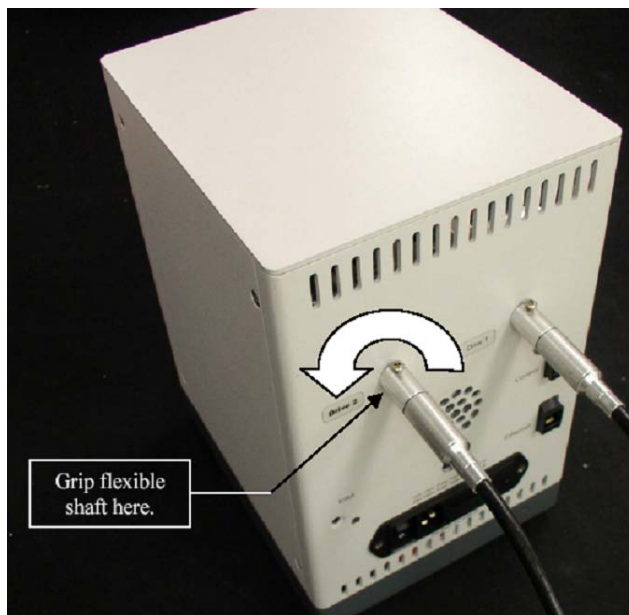

Figure 8 Flexible shaft rotational direction for AutoX probes
Rotate the flexible shaft in the direction indicated in Figure 8.
- Grip the flexible shaft where it attaches to the motor module. For AutoX-type probes, rotate the knob in the direction, until you feel the tuning capacitor break free from the end, see Figure 8.